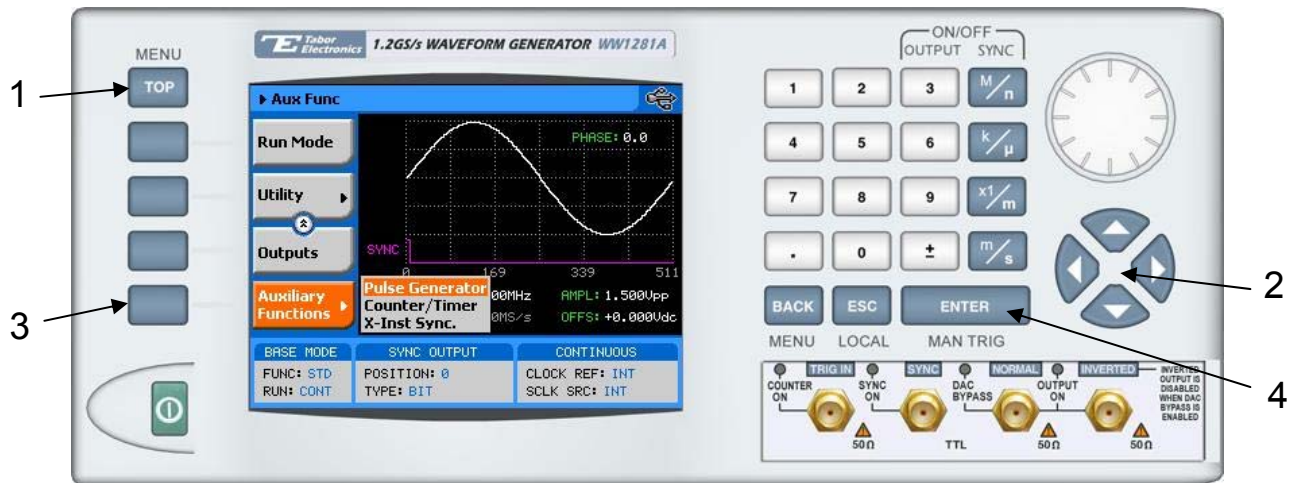

Figure 3-32, Accessing the Digital Pulse Generator Menus
3. Press Auxiliary Functions soft key and notice that the Pulse Generator option is highlighted, as shown in Figure 3-32.